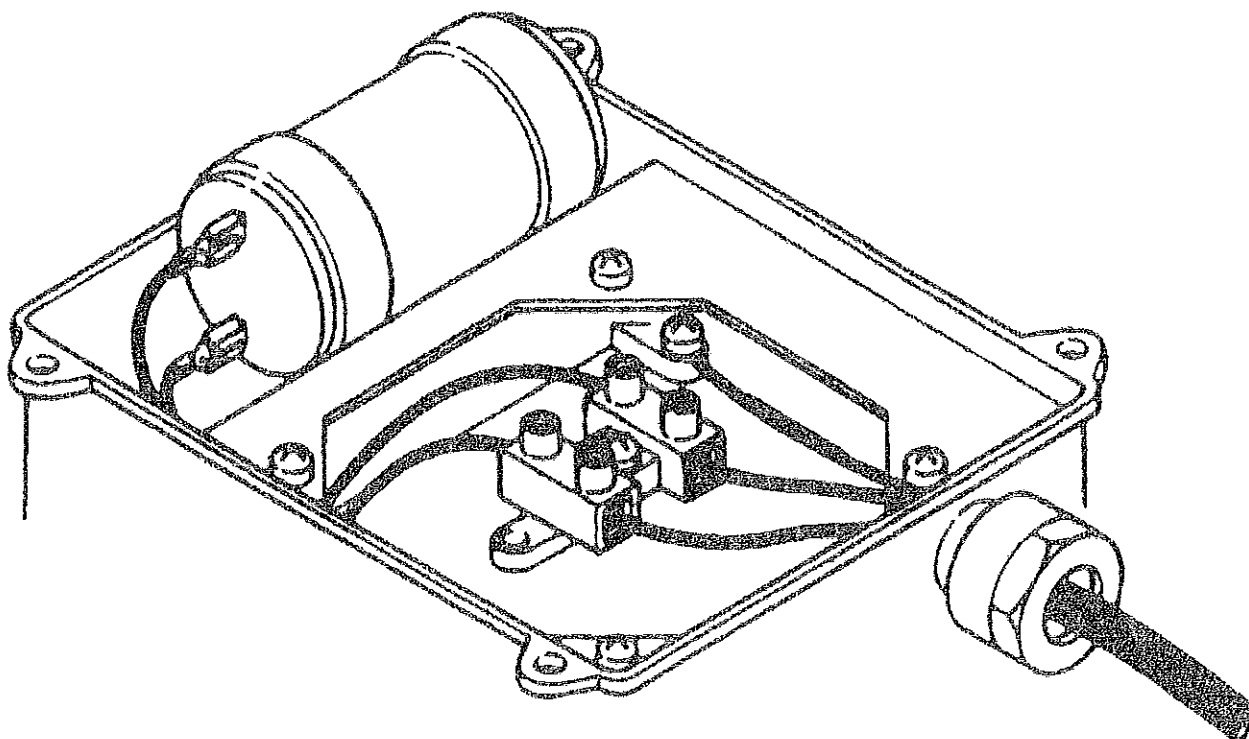

Fig. 2 / Bild 2
- The mains earth wire will be connected electrically to all metal parts of the equipment which should not be under current, but which could accidentally be affected by the same and which are accessible to persons (see figs. 2 - 5, pages. 38 - 40).